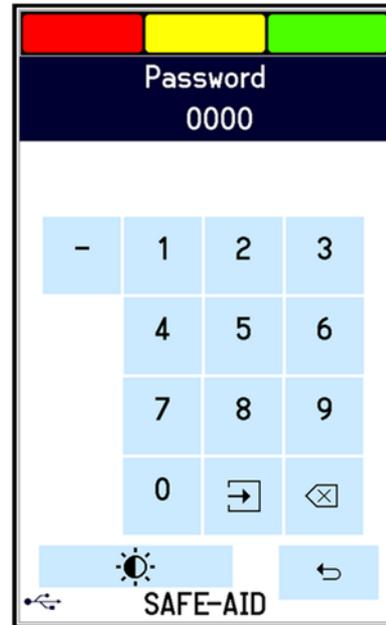

Figure 10
1. To access the wind speed menu from the operating screen, press the block where the current wind speed is displayed, a **Password** screen will be displayed (figure 10).